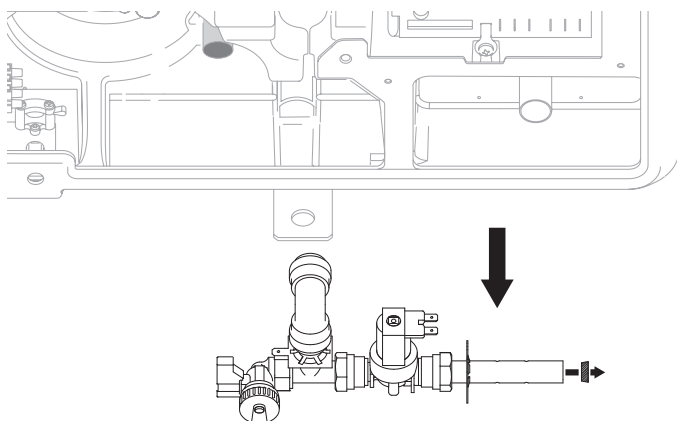

Figure 18: Inlet assembly filter removal
- ▶ At either end of the inlet control assembly are two 15mm push fit connectors. Remove the inlet control assembly by releasing the two push fit connectors, one from the internal tank and the other from the cold water feed pipe, see figure 18. Move the inlet assembly to the left to clear the support bracket and pull the assembly down and out to clear the unit.